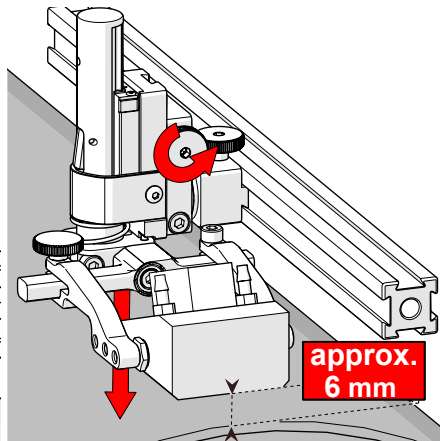

Fig. 133 - Lower toward scan surface
3. Tighten the vertical adjustment knob (Fig. 133).